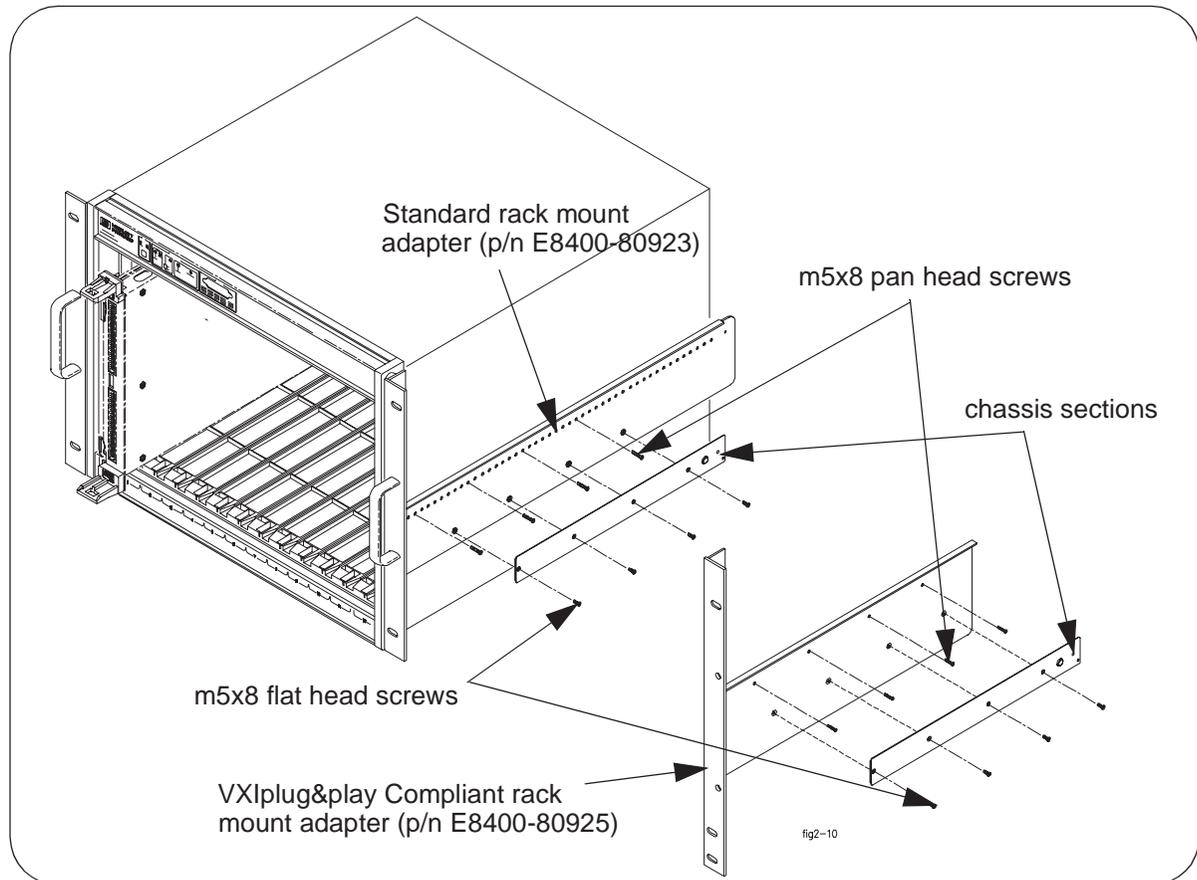

Figure 2-10. Attaching the Rack Mount Adapters and Chassis Sections to the Mainframe.
- Attach the rack mount adapters to the mainframe using the eight m5x8 pan head screws provided. To mount the mainframe flush with the rack front, begin with the 3rd hole from the front of the adapter (Figure 2-10).
8. Attach the chassis sections to the rack mount adapters using four m5x8 flat head screws per side (Figure 2-10).